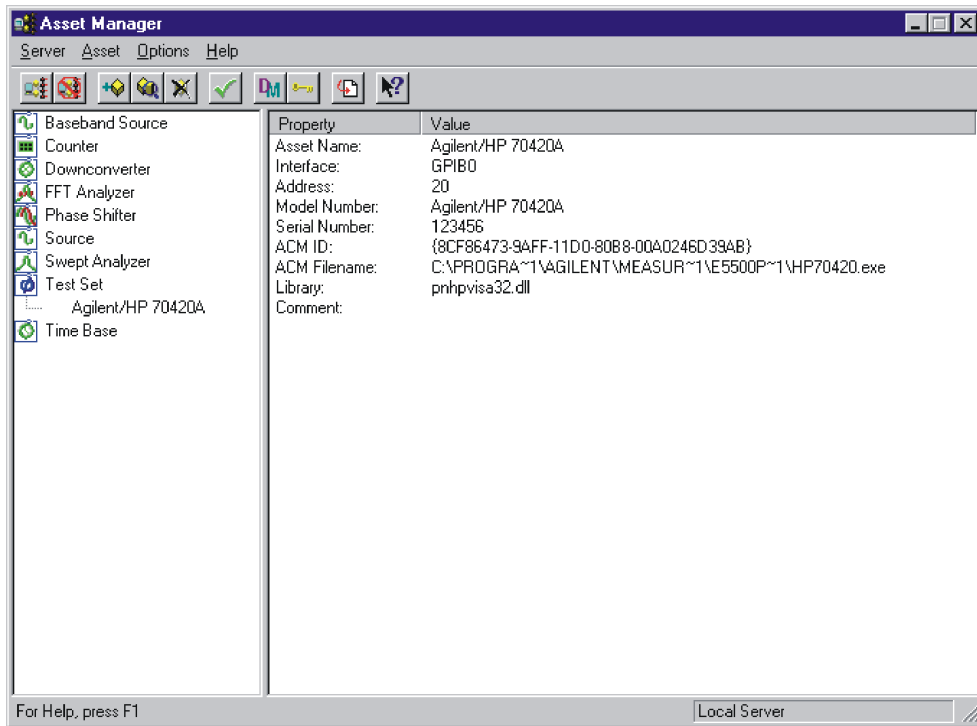

Figure 1-19 Asset Manager Main Screen Showing Configured Agilent 70420A Test Set
- 8 Select **Finish**. The Asset Manager window appears. See Figure 1-19.